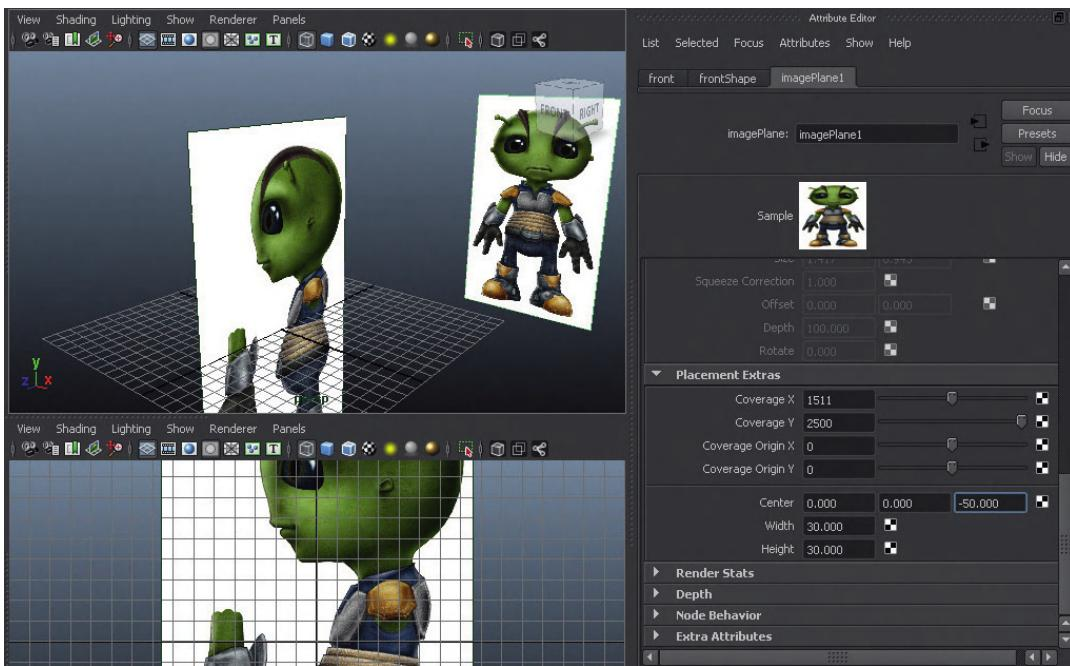

FIG 4.3 Adjusting the placement (in Z) of the image plane that is in the front View Panel.
Step 7: Access the imagePlane attributes for the front View Panel and move the image plane back in Z. To do this, in the front View Panel, choose View > Select Camera. This will show attributes of the camera in the Attributes Editor (to the far right of the interface). There, look for the imagePlane1 tab and click it. Look for the Placement Extras section and expand it (if needed). In the Center input fields, change the settings to read 0, 0, -50 (Fig. 4.3).
Think of an image plane as a plane attached to a camera. This is why accessing the attributes of the image plane is done by adjusting the attributes of the front camera. Within the front camera's nodes, the imagePlane1 tab shows the attributes of the image plane attached to the camera. Predictably, the Placement Extras section allows for adjustments of the image plane. The Center set of input fields isn't labeled, but the three input fields are for X, Y, and Z. By default these will be 0, 0, 0, but entering -50 in the Z input field pushes the image 50 units back in Z (as can be seen in Fig. 4.3).